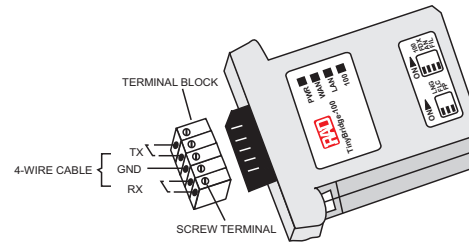

Figure 8. Connecting the 4-wire WAN Interface
3. Feed the 4 wire cable through the protective cover and connect the Tx and Rx wires to their respective terminals, as illustrated in *Figure 8*. If the cable is shielded, connect the shield to the GND terminal.